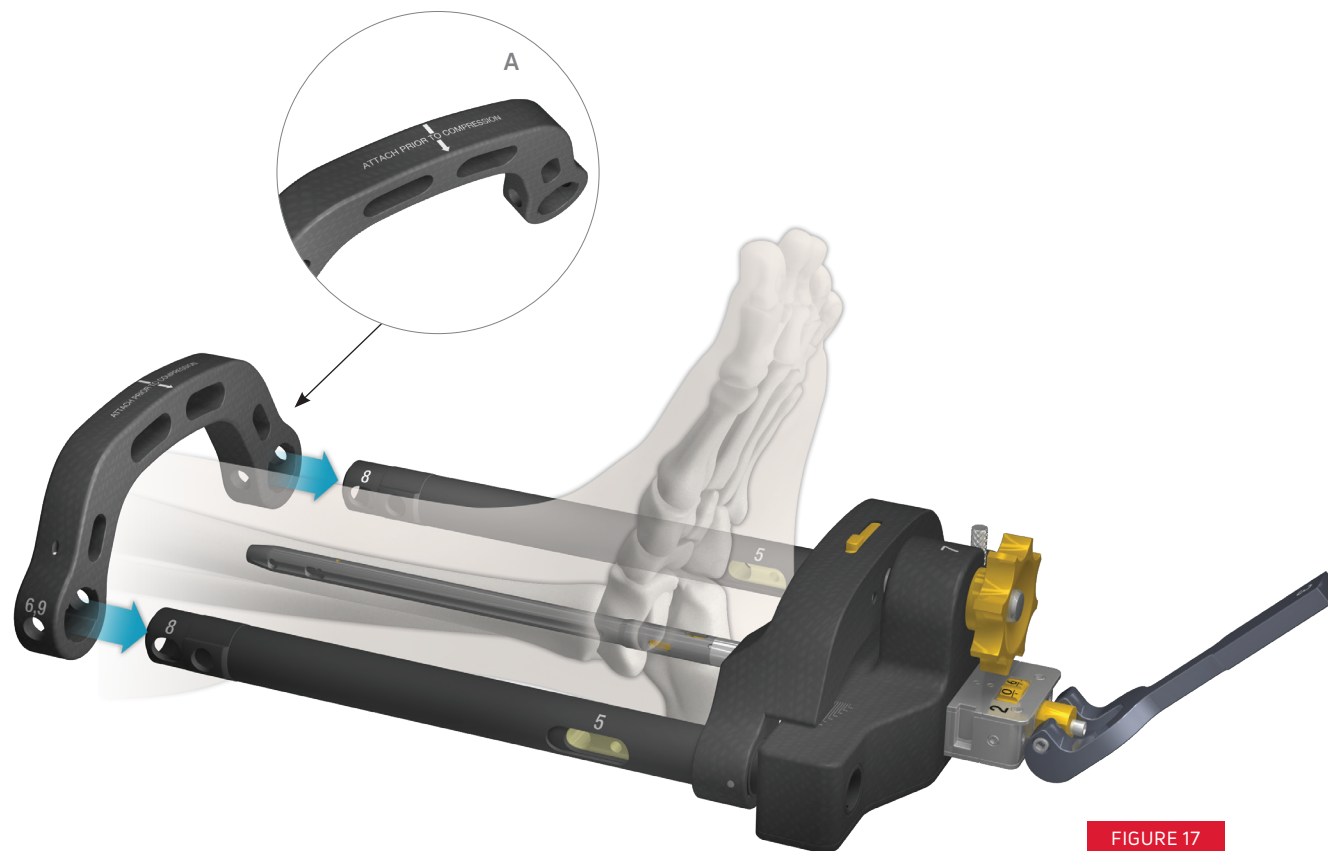

FIGURE 17
4. 8 mm Guide Sleeve (7)
5. 4 mm Drill Guide (6)
6. Trocar Obturator (5)
7. 4 mm Drill (20)
8. Wide 3.5 mm Hex Driver (15)
9. 3.5 mm Hex Driver (16)
10. Blue-Handle Ratchet Driver (36)
Slide the Outer Tube Brace (A) onto the Manual Compression Tubes until it locks in place, ensuring the arrow markings are pointed towards the DynaFrame Assembly (FIGURE 17). Be sure that the holes in the Outer Tube Brace align with the holes in the Manual Compression Tubes.